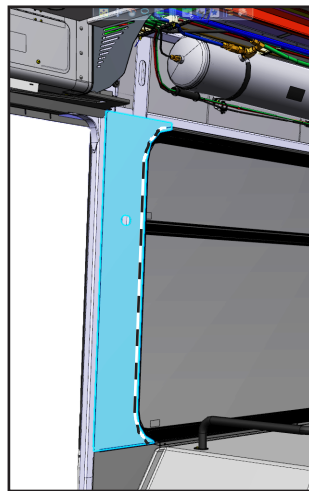

Figure 6 - Remove Melamine
- 1.15. Remove the melamine using a utility knife to cut the double face tape between the wall and the melamine. See Figure 6.